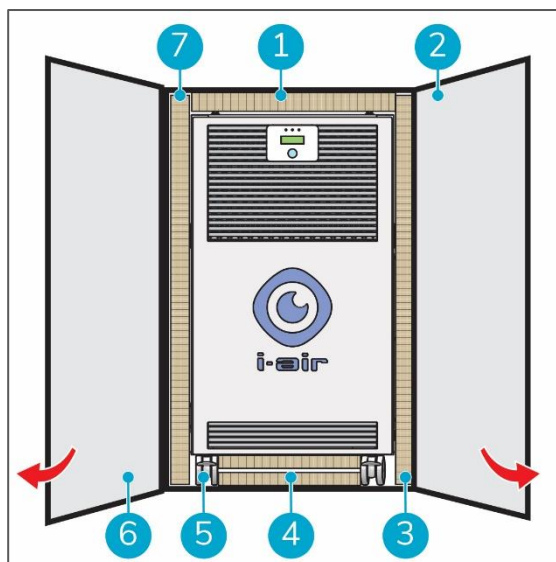

Figure 7
2. Open the front box flaps (Figure 7, pos. 2 and 6).
- You will see your i-air Pro as shown in Figure 7.
4. Remove the left and right honeycomb paper boards (Figure 7, pos. 3 and 7).
5. Remove the double honeycomb paper board from underneath your i-air Pro (Figure 7, pos. 4).
6. Unlock the caster wheels (Figure 7, pos. 5) and pull your i-air Pro out of the box.
7. Remove the honeycomb paper board on top of your i-air Pro (Figure 7, pos. 1).